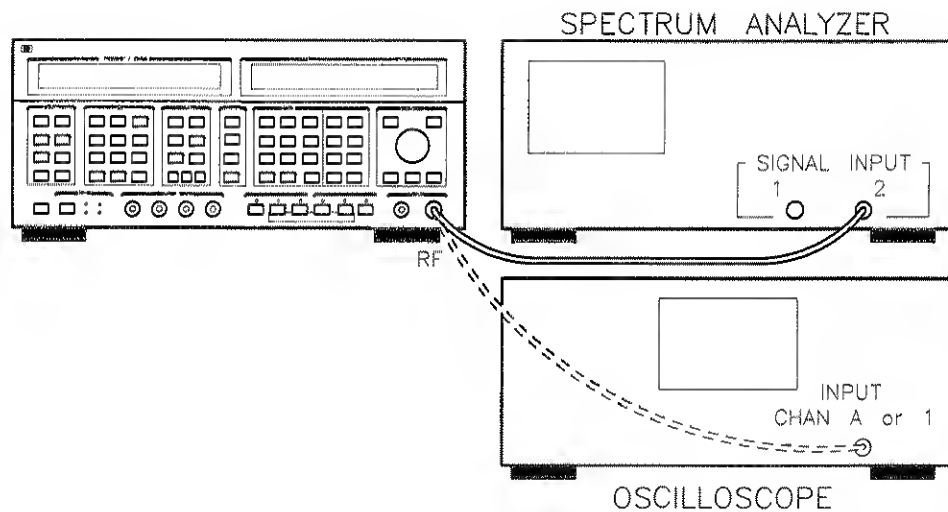

Figure 2-5. Equipment Setup for AM Procedure #1.
1. Connect the Signal Generator to the spectrum analyzer (or oscilloscope) as shown in figure 2-5. Turn on the equipment, and make the following adjustments: